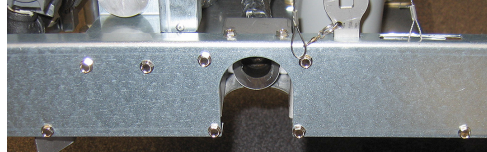

Figure 17
8. Remove the eight (8) screws from the front of the filter motor deck assembly and the two (2) above the female suction assembly (see Figure 17).